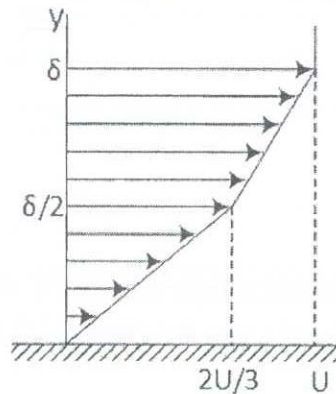

Figure Q1
- b) Velocity in a laminar boundary layer is approximated by the two straight-line segments indicated in Figure Q1. Apply the momentum integral equation to determine the boundary layer thickness and wall shear stress.